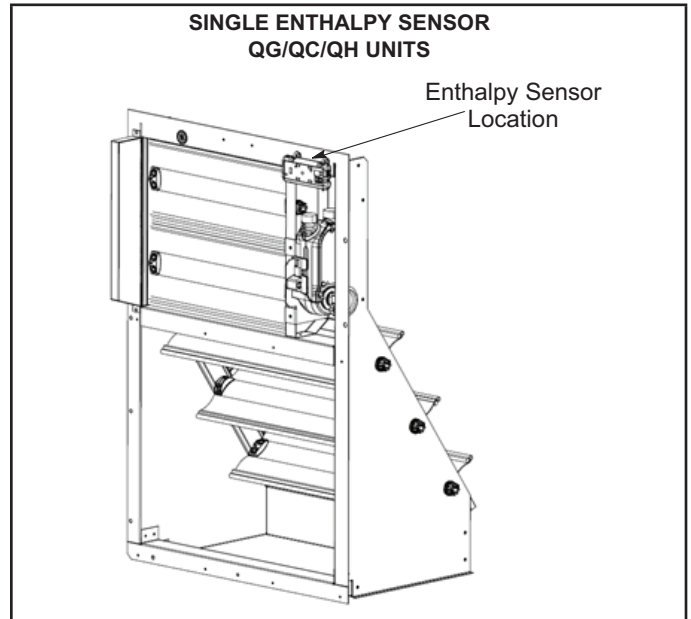

FIGURE 3
- 4 - Replace the outdoor air sensor with the sensor provided in this kit. See figure 3 for sensor install location.